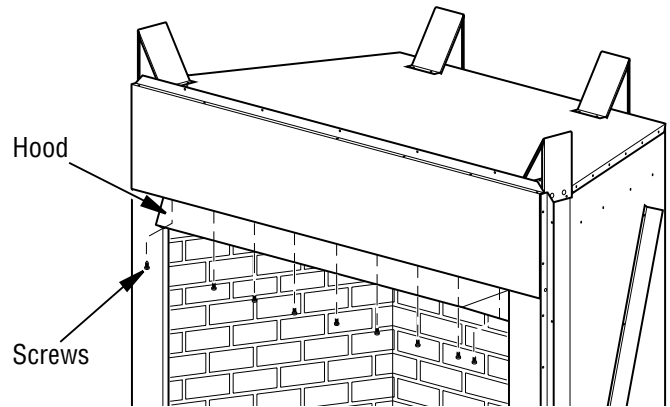

Figure 16 - Installing Hood
1. Attach hood to firebox using screws provided (see Figure 16).